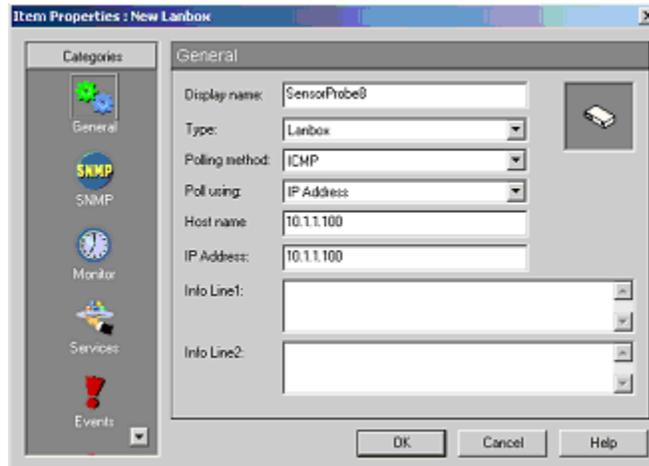

Figure 2 General Property page
3.2 On the left pane, select General (see Figure 2).
3.1 Double click the ServSensor JR icon on the network map to open the item properties dialog box shown in Figure 2.